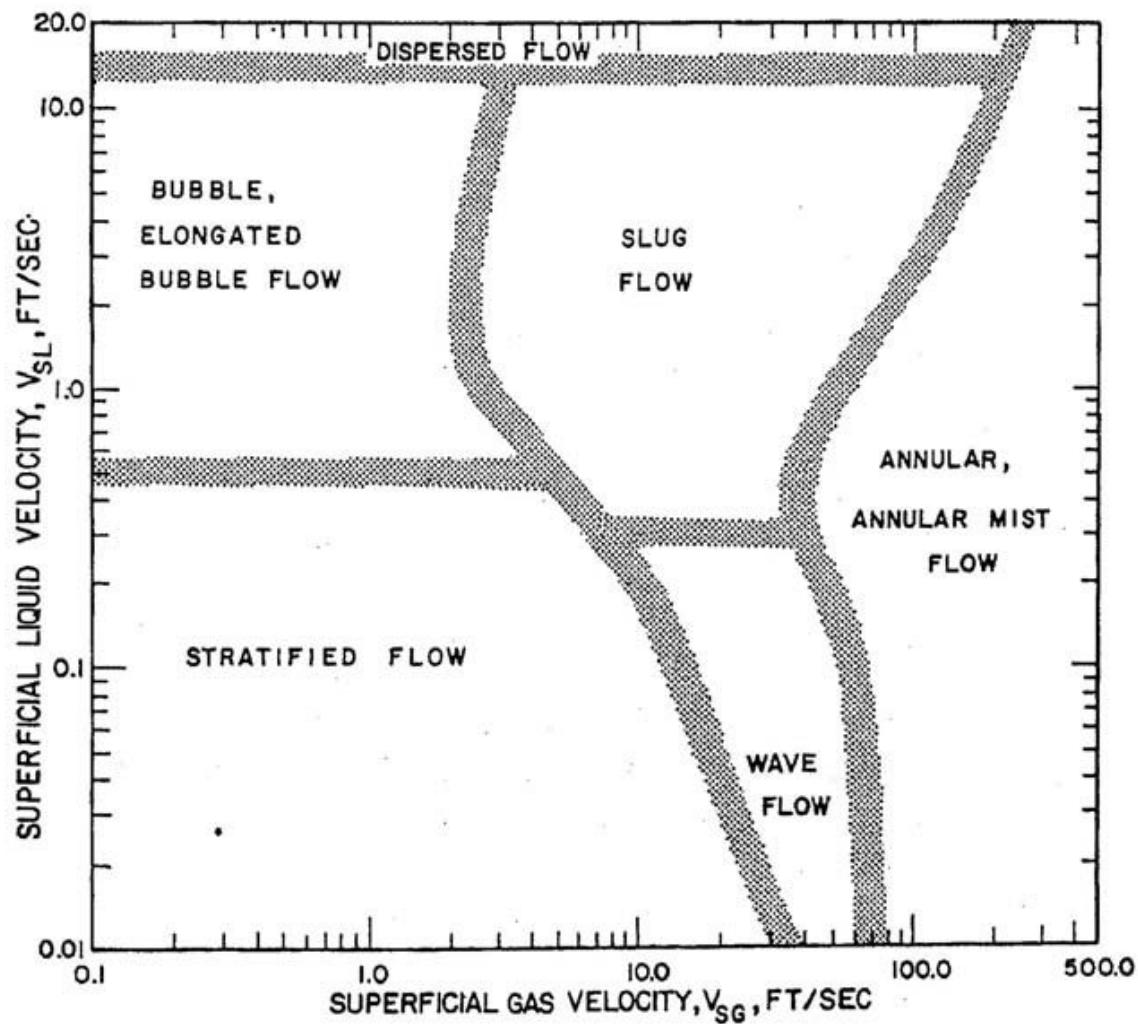

Figure 1: The Mandhane horizontal flow pattern map.
- b) Liquid and gas are flowing in a horizontal pipeline with inner diameter of 38.1 cm. The liquid rate is $0.0369 \text{ m}^3 \text{ s}^{-1}$. Using the Mandhane flow map in Fig. 1, calculate the gas rate in $\text{m}^3 \text{ s}^{-1}$ where there will be a transition from slug to annular flow.